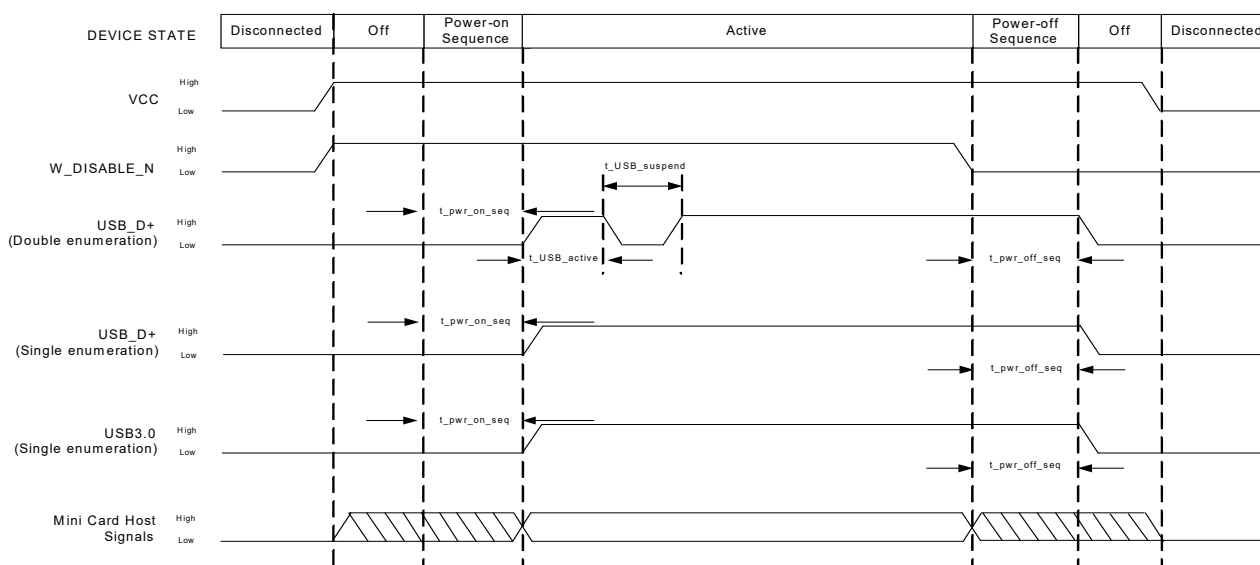

Figure 4-2: Signal Timing ($W_DISABLE_N$, and USB Enumeration)
Figure 4-2 describes the timing sequence for powering the module on and off.
- Double enumeration—As shown in Figure 4-2 on page 47: